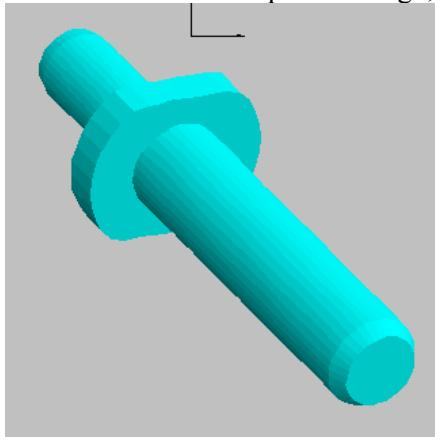

Figure 3
The procedure for getting a sequence design for part shown in Figure 3 using ‘Design By Command’
6. Go to ‘Model’ and modify this representative part to the new part as seen in Figure 3. Note that you do not have to ‘Explode’ the union to replace the Hex prim with the ‘Rod with Flat’ prim. You can replace the primitives in ‘Modify Union’ dialog box without ‘Explode’. Modify the dimensions as needed. Make sure you do not delete any primitive.